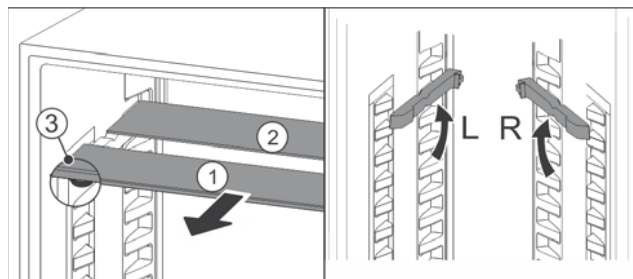

Fig. 18
- Pull the glass panels out Fig. 18 (1) from the front, one at a time.
- ▷ The glass panel Fig. 18 (1) with the trim strip is at the front.
- ▷ The stops Fig. 18 (3) point downward.